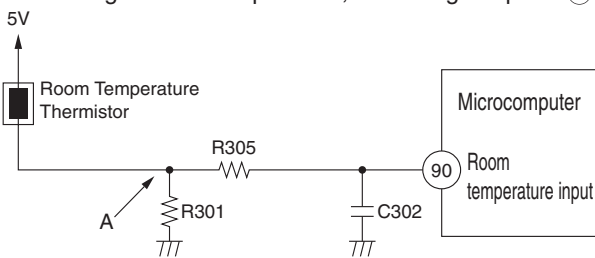

Fig. 8-1
A room temperature thermistor circuit is shown in Fig. 8-1.
- Fig.8-1 shows the dip switch circuit; the table shown in Fig.10-2 are function and setting position from ① – ⑥ of the switch no.